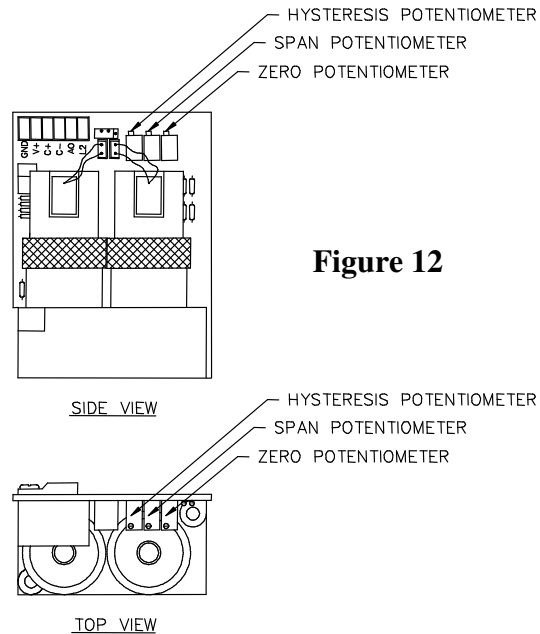

Figure 12
4. On the printed circuit board, locate the two adjustment potentiometers labeled "P-S" (span adjust) and "P-Z" (zero adjust). (See figure 12)
9. If at any time during the calibration procedure the control valve oscillates or becomes unstable for more than one second, turn the hysteresis potentiometer "HW" (see figure 12 for location) clockwise until the oscillation stops, then turn it one more complete turn (same direction).